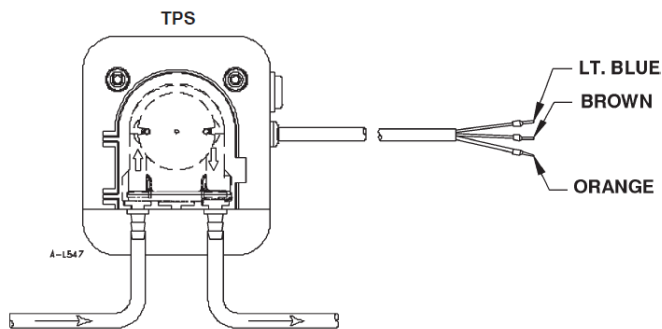

FIGURE 3
**AAD Series** (compressor or cooling signal) - Connect the brown wire to the main phase (line), the blue wire to the neutral phase (common). The pump must not be connected to a switched line. Electricity should always be provided on this line. Connect the orange wire to the compressor or cooling signal (Figure 3). When the compressor engages, a 230V supply voltage will be sent to start the pump. When the compressor stops operating, the pump will not stop. The pump is programmed to continue operating for another 5 minutes to collect any residual condensate before stopping.